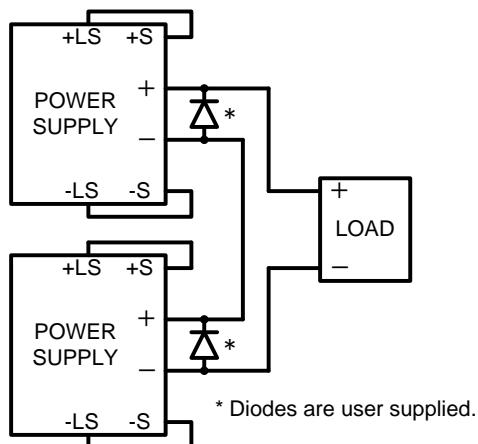

Fig.4-1: Series connection, local sensing
- ◆ Refer to Fig.4-1 and 4-2 for series operation with local and remote sensing.